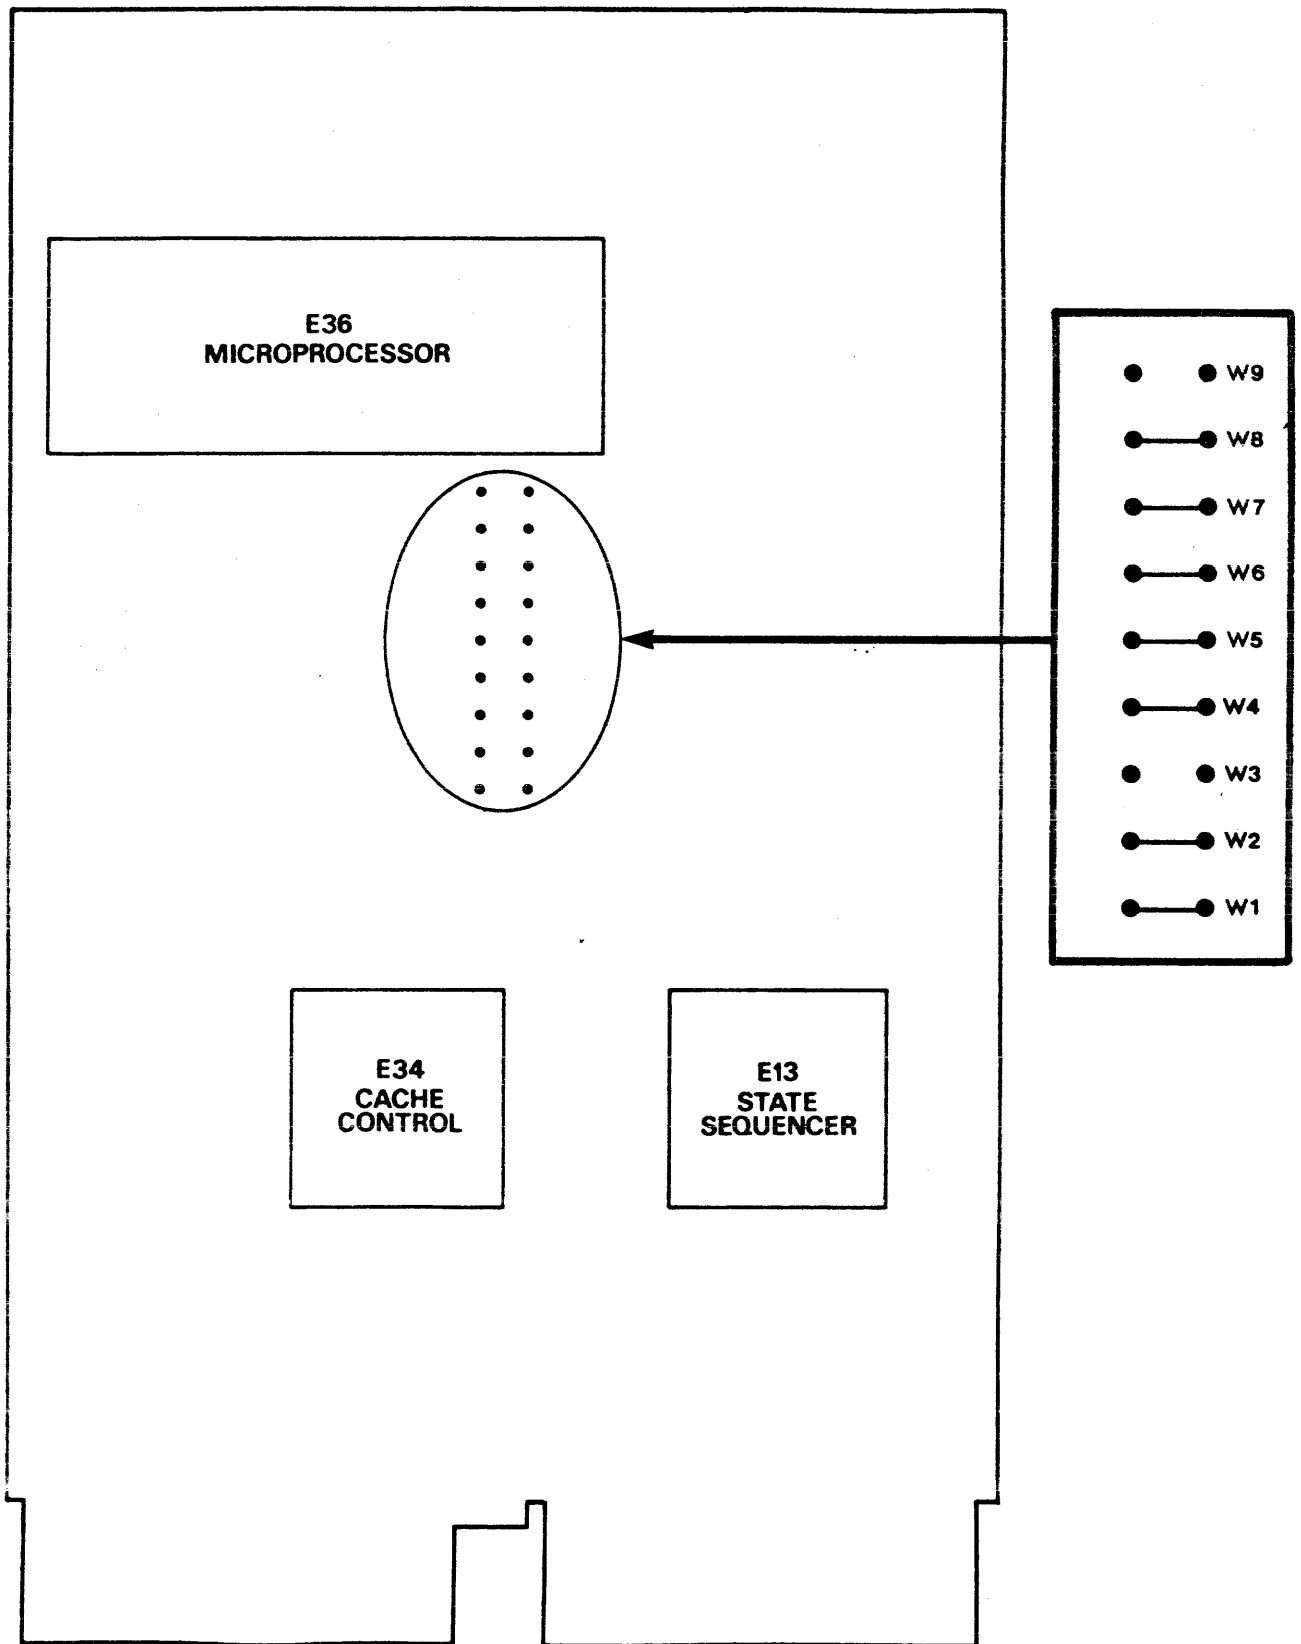

Fig. 4-2 Location of jumper pins on KDJ11-AA (LSI-11/73)
2. KDJ11-AB (LSI-11/73) CPU (Figure 4-2).
The KDJ11-AB has nine pairs of jumper pins that can be configured to implement various user-selectable features. These jumpers, the various configuration options, and the SMS-shipped jumper configuration are listed in Tables 4-6 and 4-7. Refer to Figure 4-2 for locations of jumper pins.